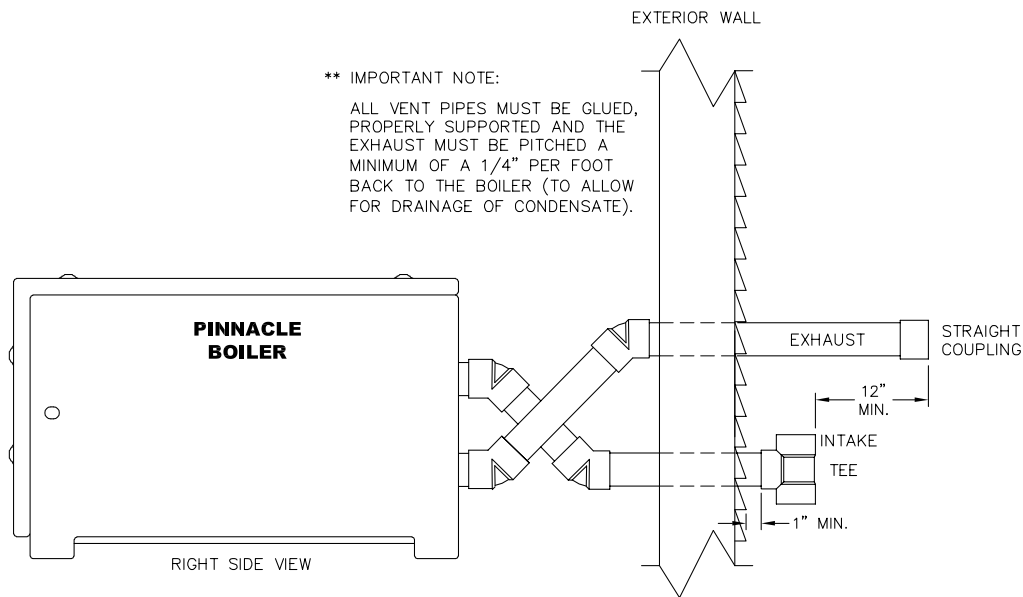
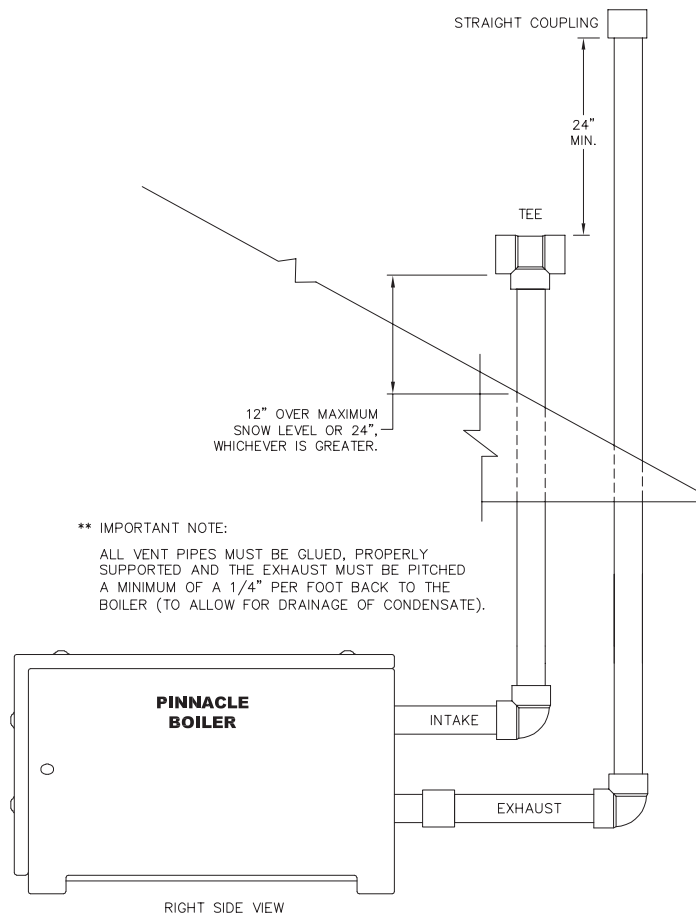

Figure 5.3: PI-399 Sidewall Venting with 4" Pipe (Exhaust Termination at Higher Elevation than Air Intake).
Figure 5.6: PI-399 Vertical Venting with 4" Pipe.
11. Refer to Figure 5.3 to 5.5 for sidewall venting and Figure 5.6 for vertical venting.